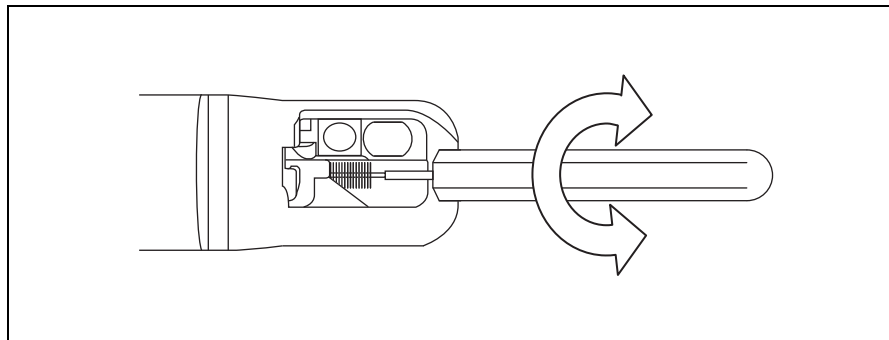

Figure 5.28
8. Rotate the inserted brush three revolutions while ensuring the end of the brush contacting the wall behind the forceps elevator (see Figure 5.28) while keeping the distal end of the endoscope immersed in the detergent solution.